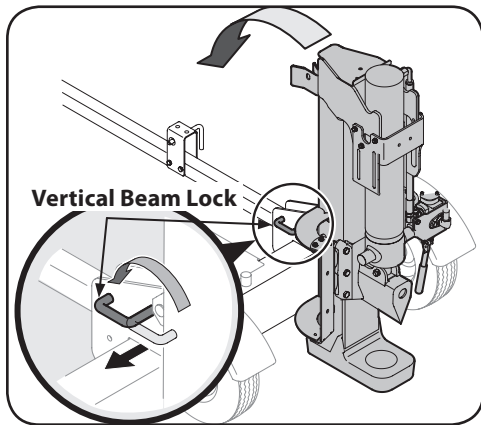

Figure 2-3
12. Pull out the vertical beam lock, rotate it back, and pivot the beam to the horizontal position until it locks. Be sure to avoid any possible pinch points. See Figure 2-3